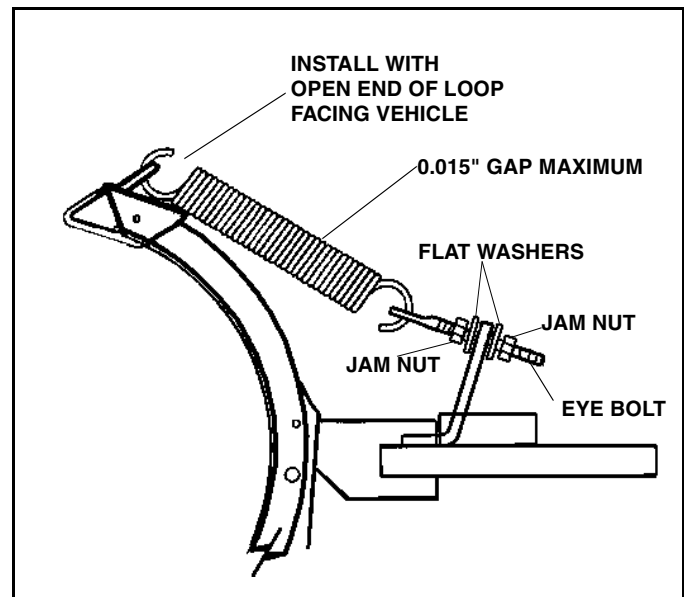

Figure 1-4
5. Attach trip springs found in blade parts box to both trip spring mounting brackets on top of blade assembly. Insure that spring is installed as illustrated with open end of top loop facing vehicle. (See Figure 1-4) Insert other end of spring into eyebolts. Install nuts and flat washers on eyebolts and tighten until trip spring coils begin to separate. (See Figure 1-4)